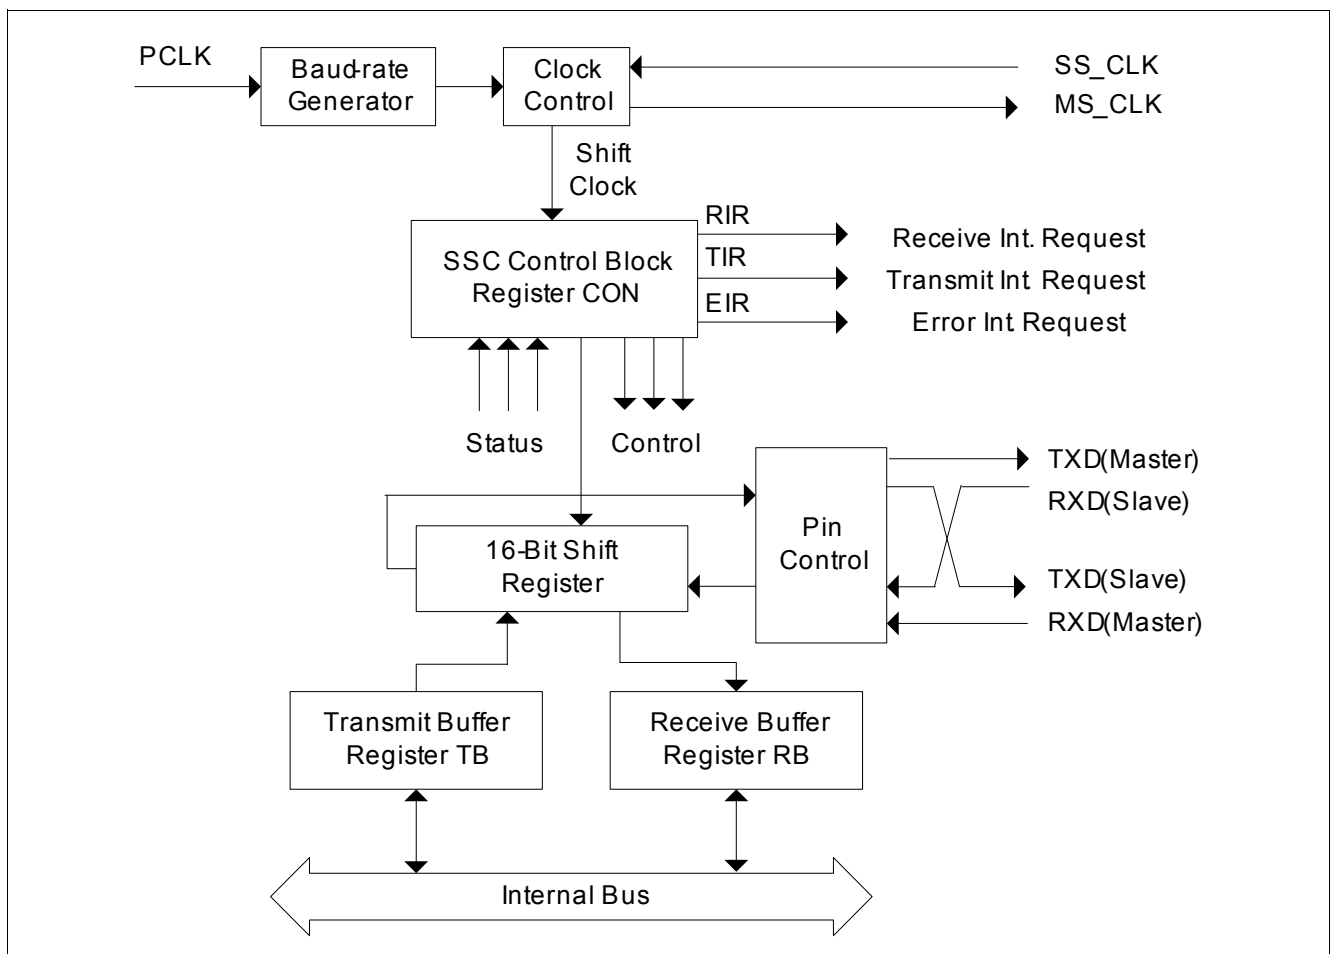
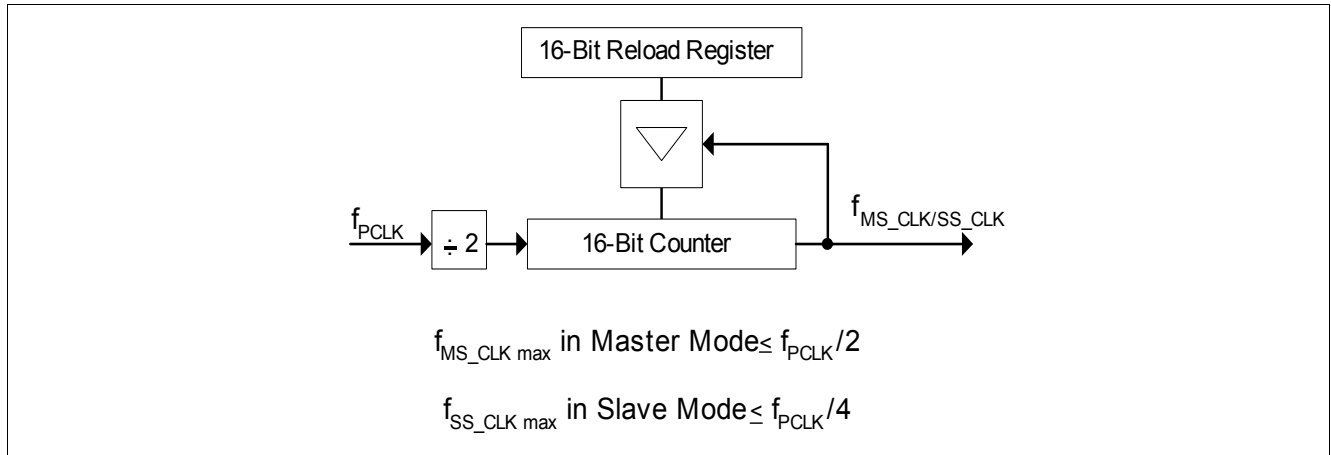

Figure 162 Synchronous Serial Channel SSC Block Diagram
Figure 166 SSC Baud-rate Generator
The shift register of the SSC is connected to both the transmit lines and the receive lines via the pin control logic (see block diagram in Figure 162). Transmission and reception of serial data are synchronized and take place at the same time, i.e. the same number of transmitted bits is also received. Transmit data is written into the Transmit Buffer (TB) and is moved to the shift register as soon as this is empty. An SSC master (CON.MS = 1) immediately begins transmitting, while an SSC slave (CON.MS = 0) will wait for an active shift clock. When the transfer starts, the busy flag CON.BSY is set and the Transmit Interrupt Request line TIR will be activated to indicate that register TB may be reloaded again. When the programmed number of bits (2 ... 16) has been transferred, the contents of the shift register are moved to the Receive Buffer RB and the Receive Interrupt Request line RIR will be activated. If no further transfer is to take place (TB is empty), CON.BSY will be cleared at the same time. Software should not modify CON.BSY, as this flag is hardware controlled.
The serial channel SSC has its own dedicated 16-bit baud-rate generator with 16-bit reload capability, allowing baud rate generation independent of the timers. In addition to Figure 162, Figure 166 shows the baud-rate generator of the SSC in more detail.
$\langle BR \rangle$ represents the contents of the reload register, taken as an unsigned 16-bit integer, while baud rate is equal to f_{MS_CLK/SS_CLK} as shown in Figure 166.